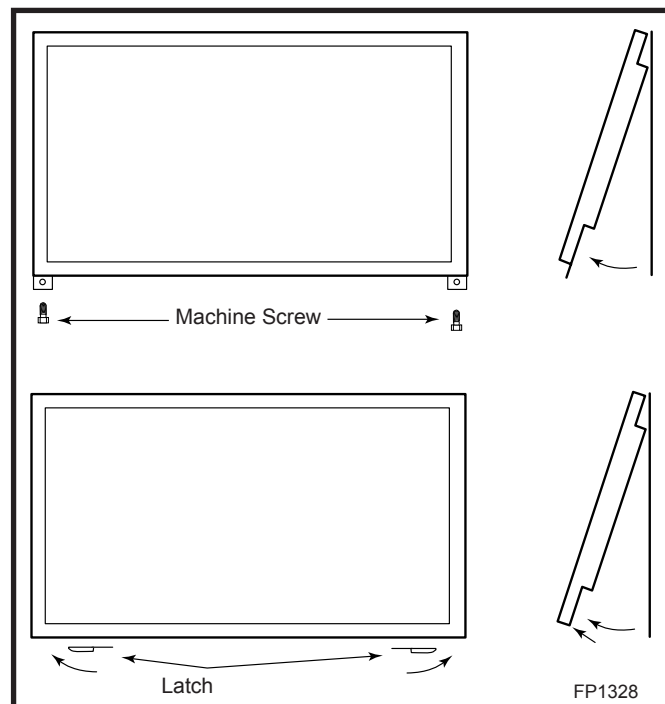

Fig. 21 Remove glass frame.
1. Unhook the frame window by pulling the handle of the two (2) latches at the bottom part of the window frame; pull the left side latch counterclockwise and the right side latch, clockwise. (Fig. 21)